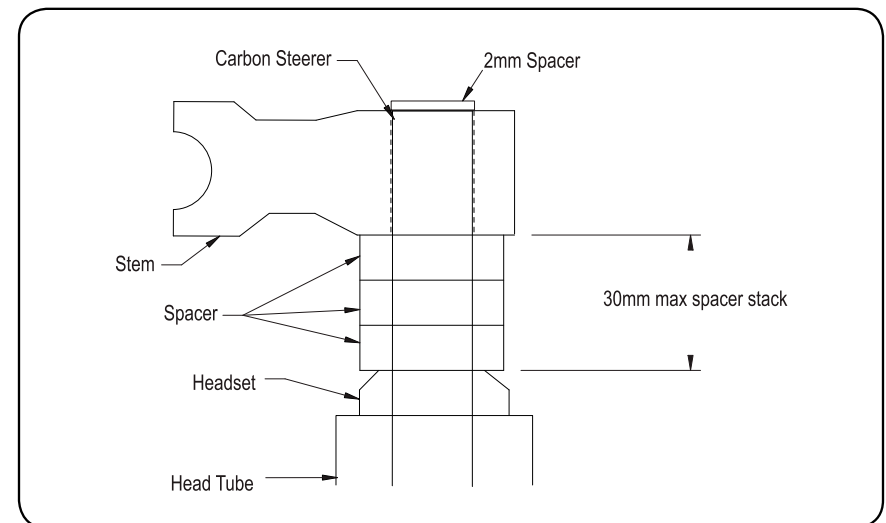

Fig. 1
2. Install a 2mm spacer above the stem to allow for proper headset adjustment. Do not exceed the 30mm maximum stack height when installing spacers (**Fig. 1**).